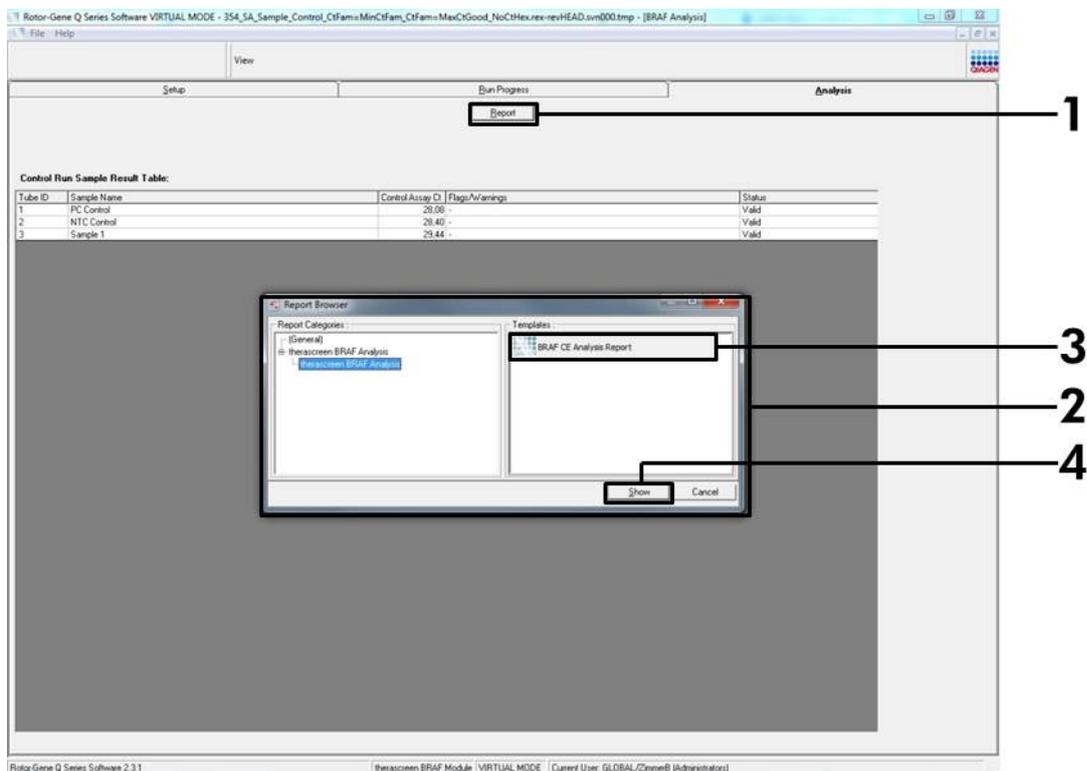

Figure 10. Selecting the “BRAf CE Analysis Report”. (1 = “Report” button, 2 = “Report Browser”, 3 = “BRAf CE Analysis Report”, 4 = “Show” button).
18. Report files can be produced by clicking the “Report” button. The “Report Browser” window will appear. Select “BRAf CE Analysis Report” under “Templates” and then click the “Show” button (Figure 10).